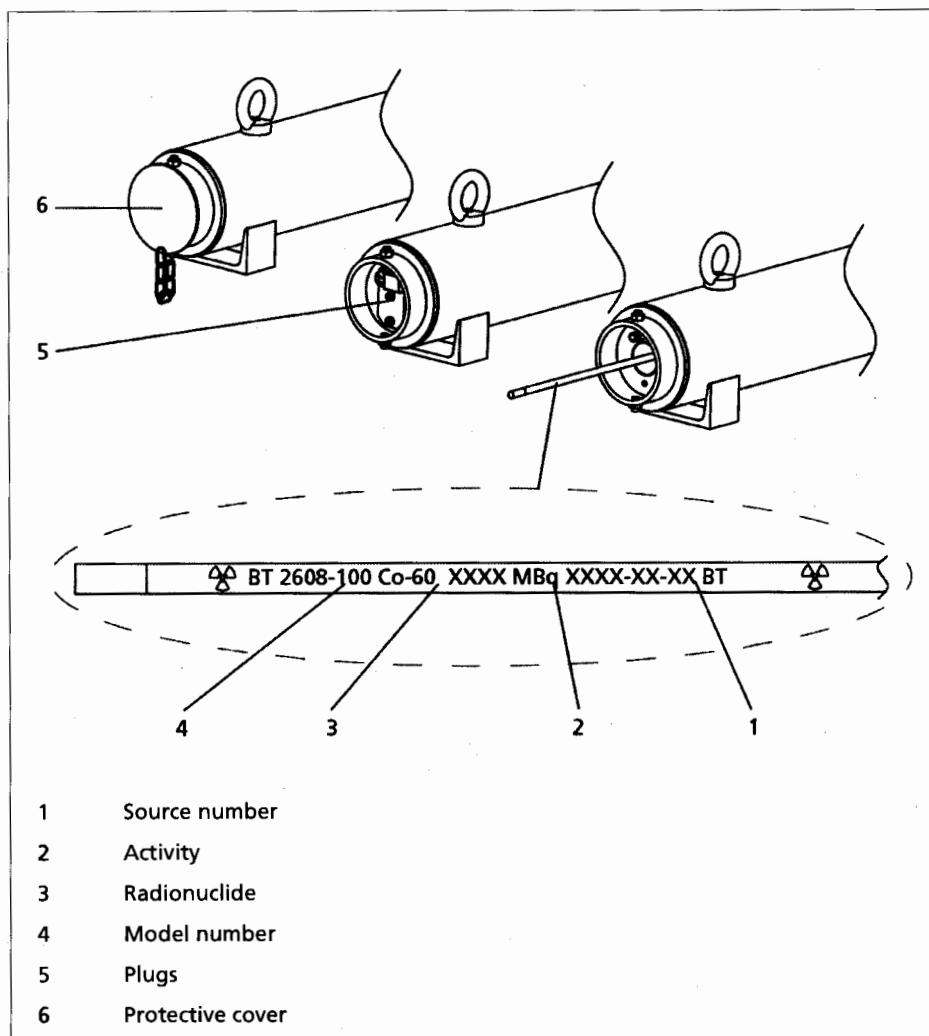

Fig. 9 Usage of a transport shielding
4. Remove the protective cover (Fig. 9, pos. 6) of the transport shielding.
5. Remove the plug (Fig. 9, pos. 5) of the transport shielding.
7. If the transport shielding is not equipped with a source magazine, the source number is to be obtained from the source itself. For this purpose, grip the source with the pair of tongs laid out and carefully extract the source from the transport shielding until you are able to read the source number (Fig. 9, pos. 1).